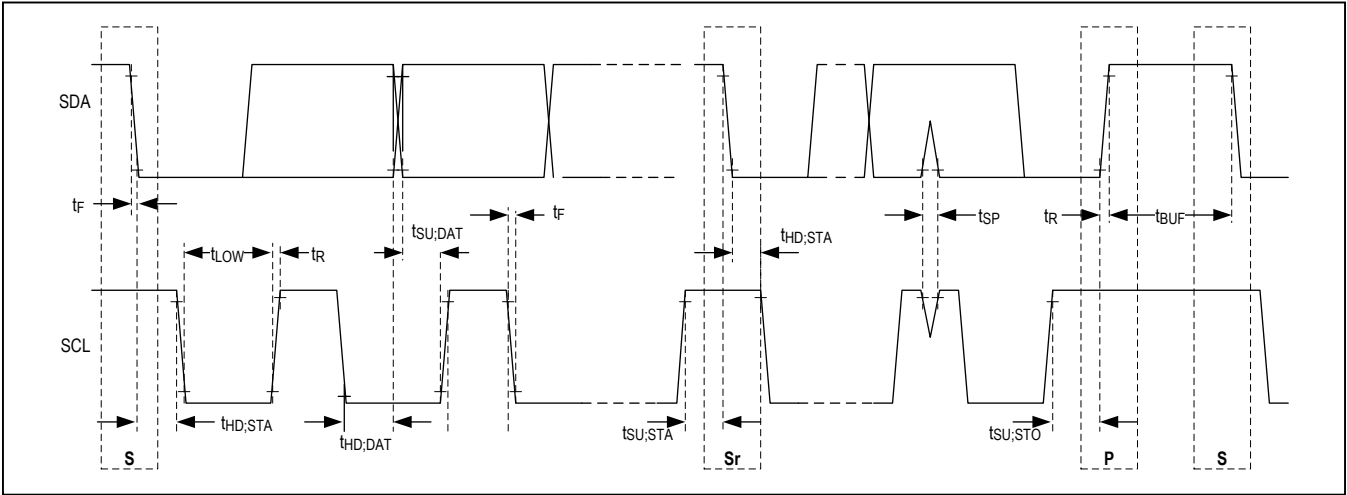

Figure 2. Timing Diagram
- Note 5:** See Figure 2 for timing diagram. All timing is referenced to 0.9 x V_{DD} and 0.1 x V_{DD}.